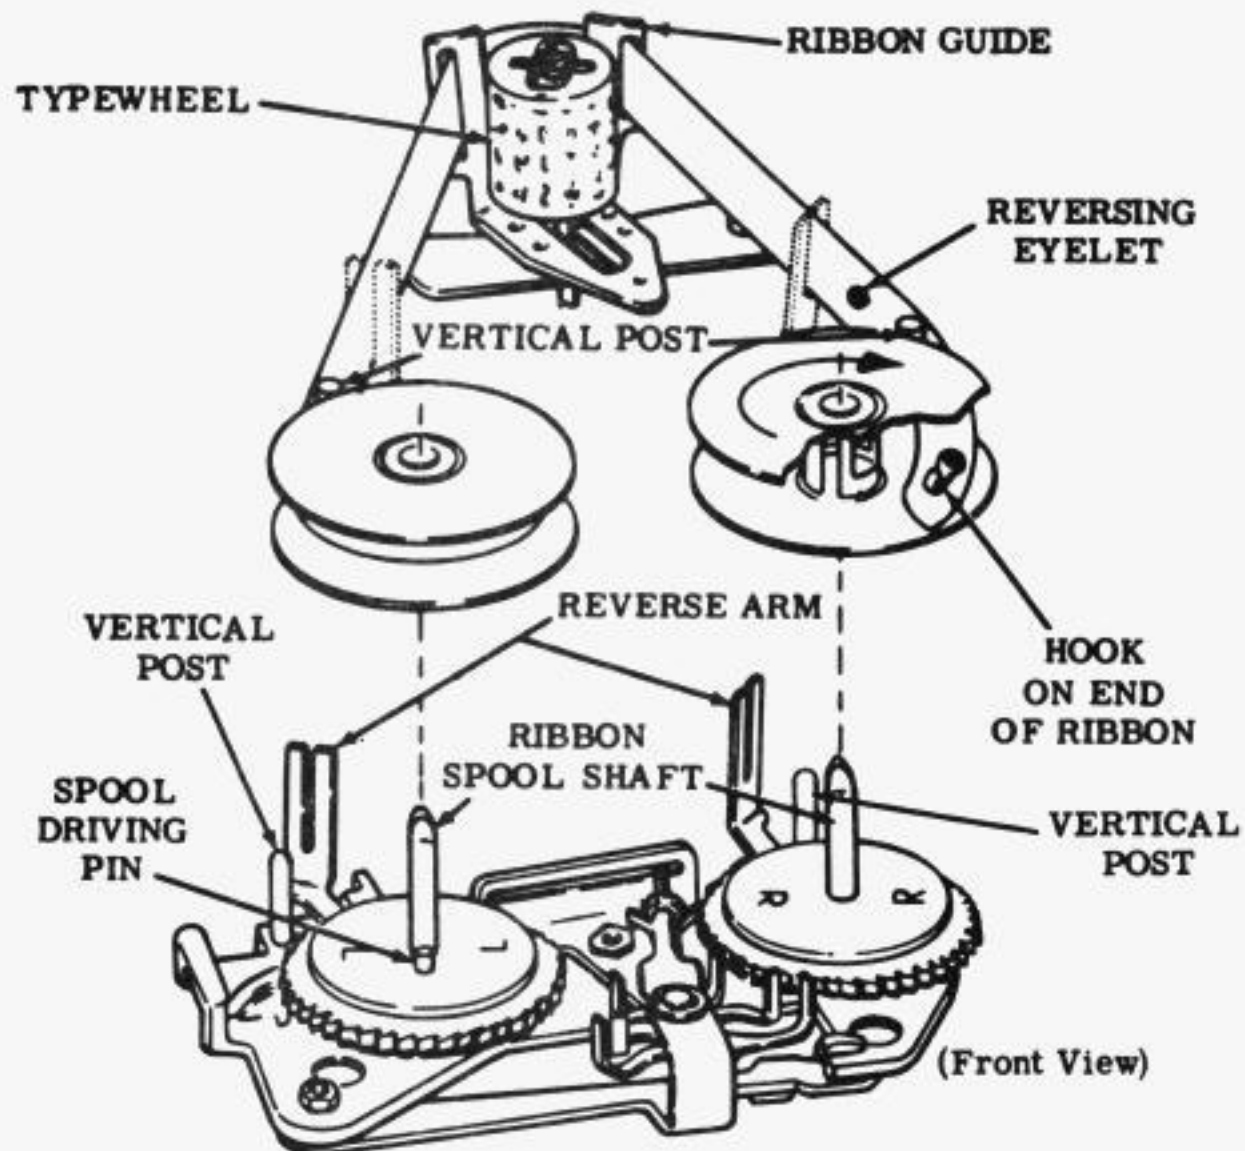

Figure 7 - Ribbon Threading
3.07 Figure 7 illustrates ribbon threading.